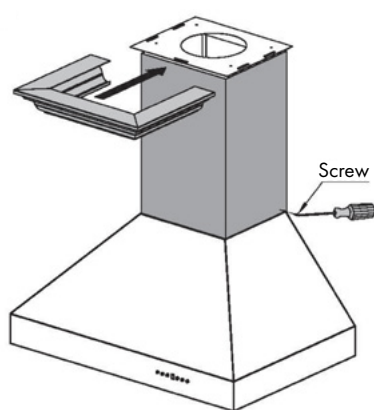

Figure 9
10. Mount the main body of the hood to the two screws and screw into place. *Figure 9*